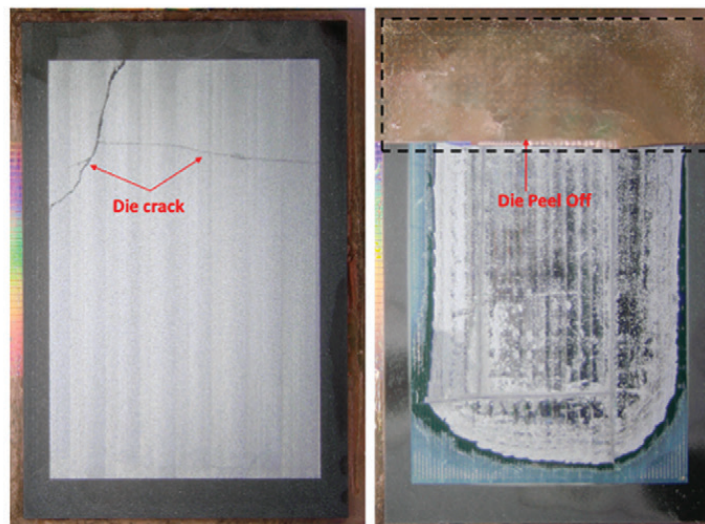

FIGURE 3. HBM dies were damaged during PFA sample preparation.
are not possible. An open failure was reported for non-underfilled stacked die packages during a chip package interaction (CPI) study. The suspected open location was within the μ bump joints at the HBM stack/interposer interface. The initial approach exposed the bottom-most die of the HBM stack, followed by FIB cross-sectioning at the specified location. Performing the destructive approach to visualize the integrity of μ bump joints in non-underfilled stack die packages was virtually impossible due to the fragility of silicon. The absence of underfill (UF) means that the HBM does not properly adhere to the interposer and is susceptible to peel off. In addition, there was no medium to release shear stresses experienced by the μ bump joints upon bending stresses, which could not be absorbed by the package. As seen in **FIGURE 3**, parallel lapping of the HBM stack without UF caused die crack and peeling.